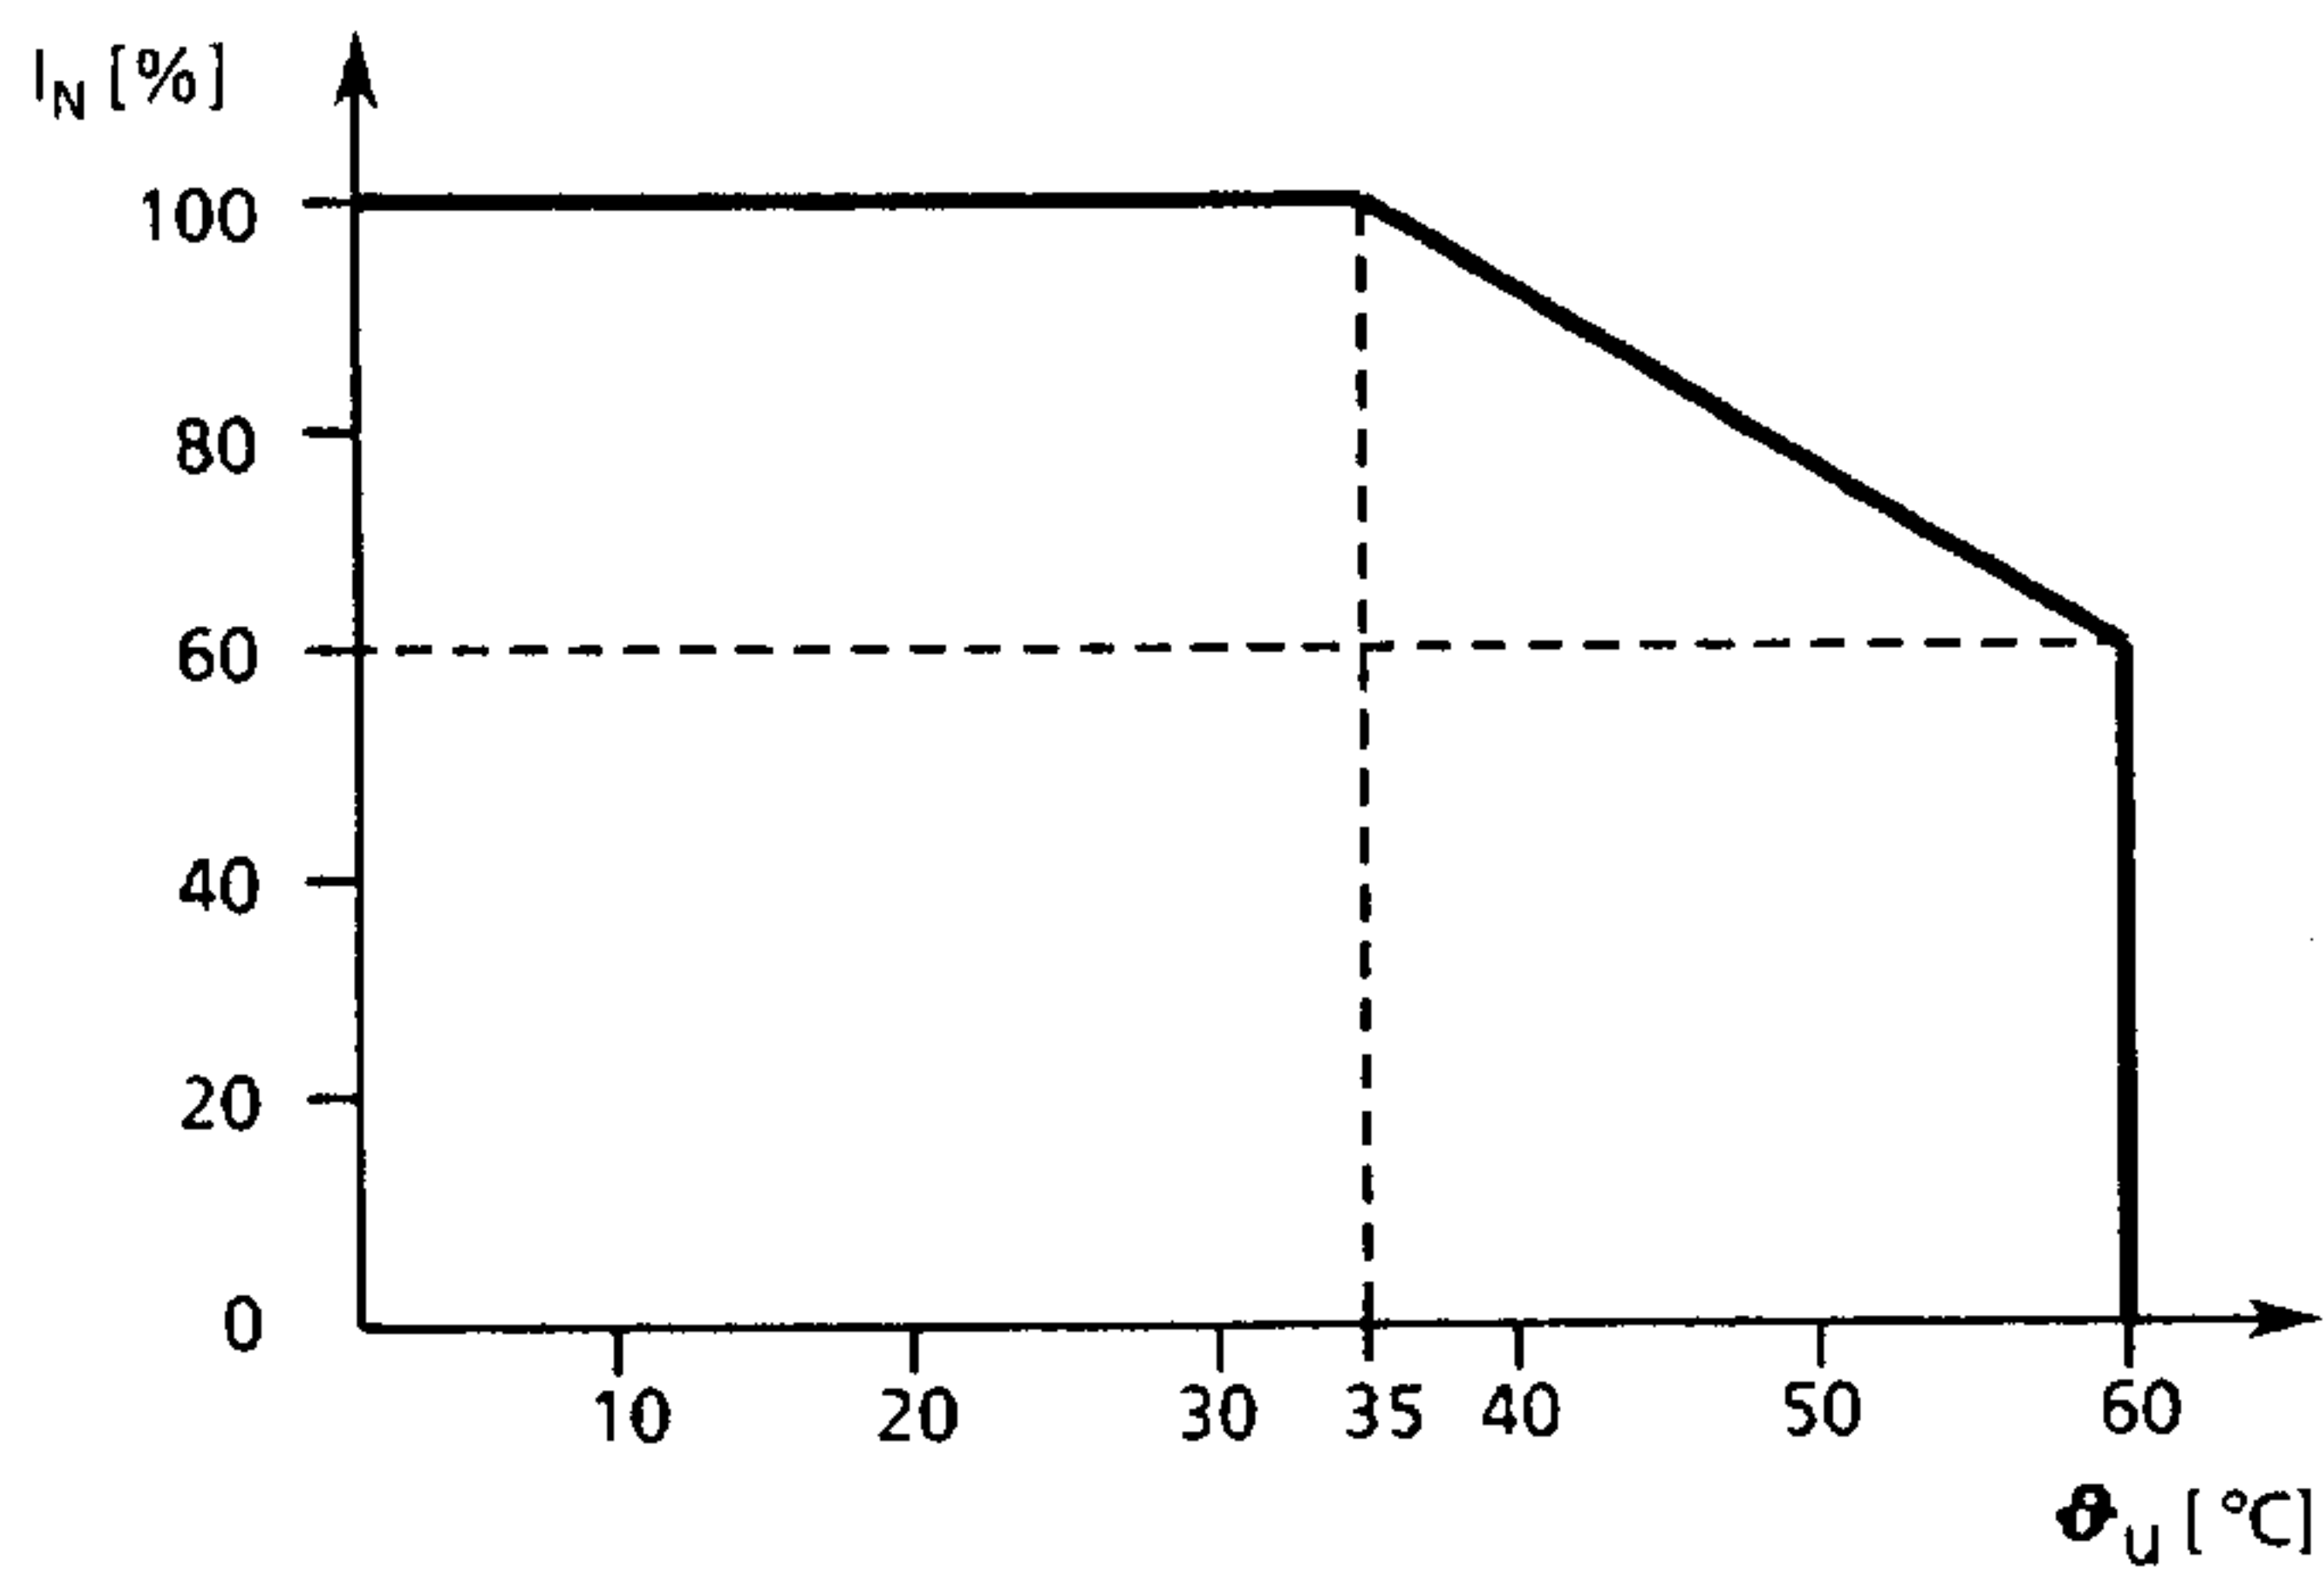

Fig. 1.4 Power reduction with raised inlet air temperature
- Inlet air temperature	0 °C to + 60 °C (also refer to Fig. 1.4)